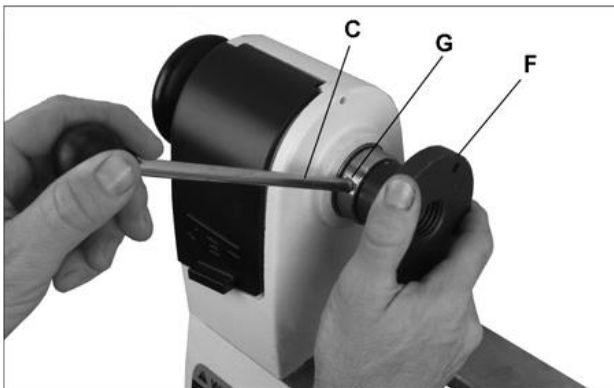

Fig 21
**The faceplate** (F, Fig 21) is used for tuning bowls. There are a number of holes for mounting the workpiece.